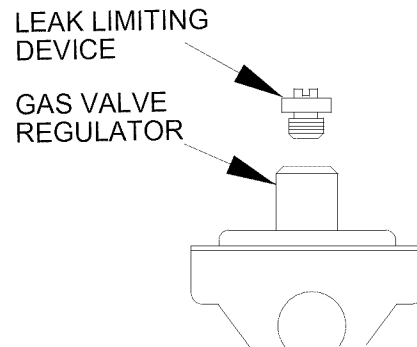

Figure 3
- Remove the regulator vent cap (leak limiting device) from the pressure regulator. See *Figure 3*.